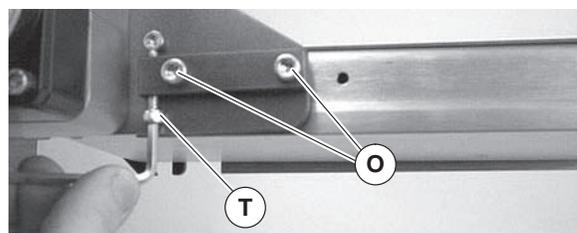

Figure 9
- Tighten timing belt tensioner screw (Figure 9, item T) to 15 in-lb (1.7 Nm).